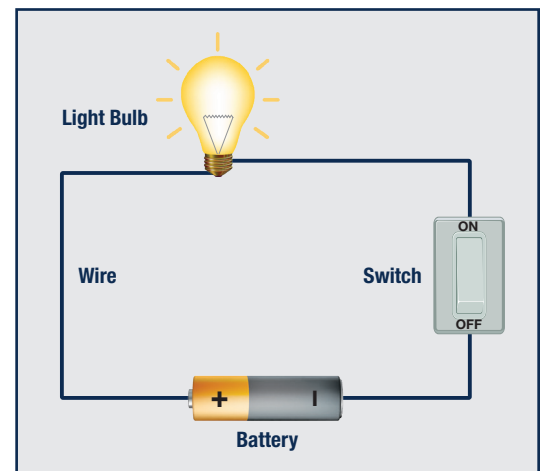

Figure 1. A simple circuit.
3. Explain that light emitting diodes (LEDs) are semiconductors that emit light as current flows in a single direction through them (Figure 1). A simple circuit can be created by using an electrochemical battery as a power source. The current flows along the medium and will only stop flowing if the connection to the medium is broken.